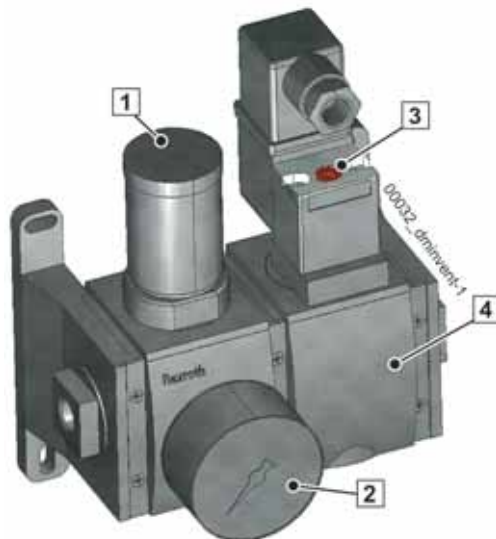

Fig. 587
In the event the electrical control system fails, the solenoid valve (4) (**Fig. 587**) can be switched using an emergency release (3) (**Fig. 587**).
- Read the pressure gauge (2) for the pressure release valve (**Fig. 587**).
- Set the pressure to 5 bar by turning the set screw (1).